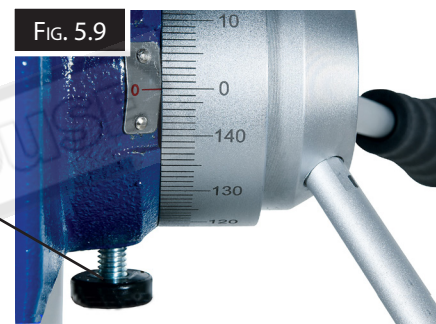

FIG. 5.9
3. Loosen the lock knob and rotate the hub clockwise until it stops. (Fig. 5.9)